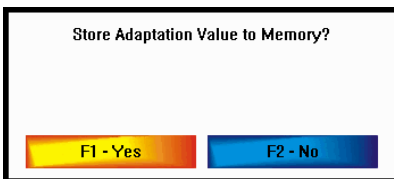
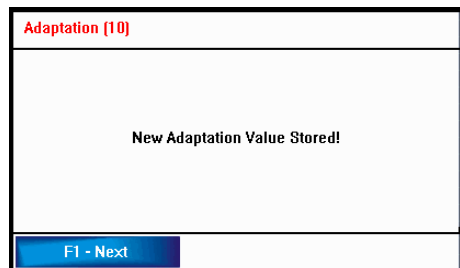

Figure 3.27
Figure 3.28
If the desired value is entered, press the Save button (4). You will be asked to confirm the change (Figure 3.27). Once confirmed, the new value is stored and the result of the procedure is displayed on the screen (Figure 3.28)